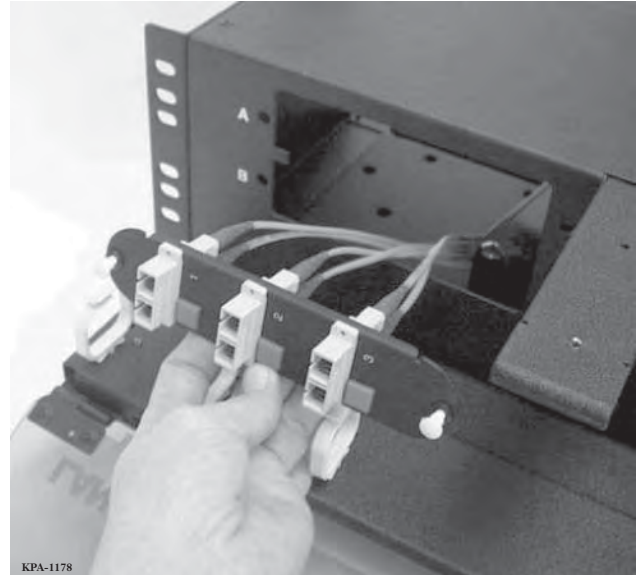

Figure 13
9.1 Feed the pigtail cable through the opening in the front of the unit toward the rear of the housing (Figure 13).